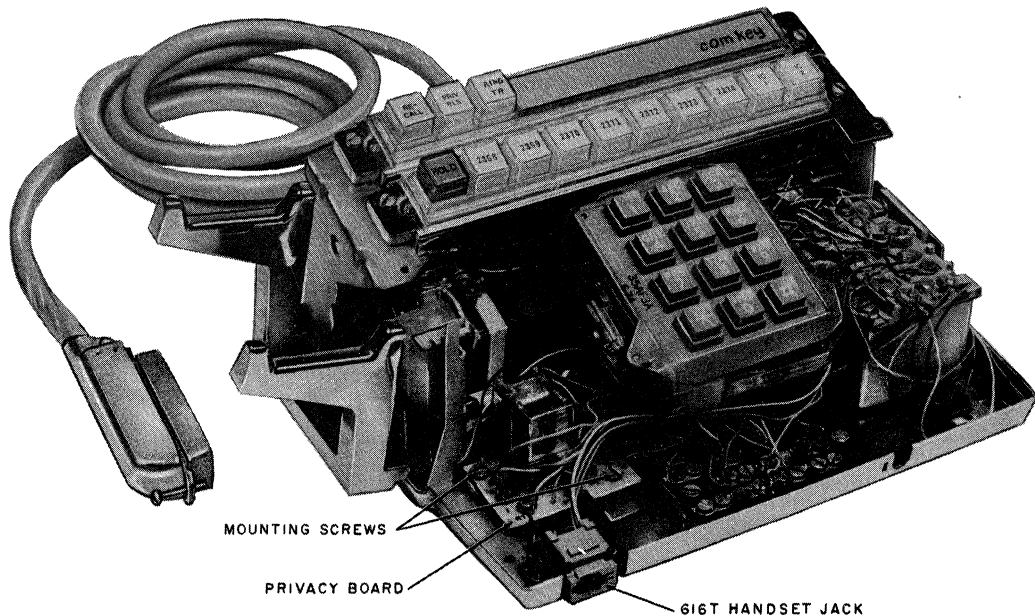

Fig. 3—2832CM Telephone Set Base
*The 575AM (Fig. 1) and 2575AM (Fig. 2) telephone sets are factory wired for two intercom lines only, for the third intercom line refer to Fig. 3, Notes 2 and 3 or Fig. 4, Notes 1 and 2.*
3.02 For COM KEY 718 key telephone system connections, terminate the connector cable on the connecting block as shown in Fig. 3. For the third intercom line used in COM KEY 718, 734, and 1434 connect as shown on Fig. 3, Notes 2 and 3. ♦For the third intercom line used in COM KEY 2152 key telephone system connect as shown in Fig. 4, Notes 1 and 2.♦
**2.01** The 832BM (Fig. 1), 2832BM, 832CM, and 2832CM (Fig. 2) are modular type telephone sets and will replace the 832B, 2832B, 832C, and 2832C telephone sets, respectively, which are hereby rated MD. The 832DM, 2832DM, 832EM, and 2832EM are also modular sets and are electrically and functionally equivalent to the 832BM, 2832BM, 832CM, and 2832CM sets, respectively, except that they have been adapted for wall mounting. The modular sets will all be equipped with a G15A-50 handset and H4DU-50 handset cord which will plug into a 616T jack mounted on the left front of the telephone set base (Fig. 3). Current production models of these sets also are equipped with an improved line switch and an improved Automatic
(1) Mount privacy circuit board on the two standoffs located at left front of the telephone set base (Fig. 3).
(2) Fasten circuit board to standoffs using mounting screws furnished with the telephone set.
(3) Connect leads according to Table C.
(4) Refer to paragraph 3.06 for testing the privacy release key.
- (1) If feature is to be added to DM- or EM-type set, a 268A adapter must be used as follows:
- (a) Mount 268A adapter onto 833A-50 adapter with two screws as shown on Fig. 3